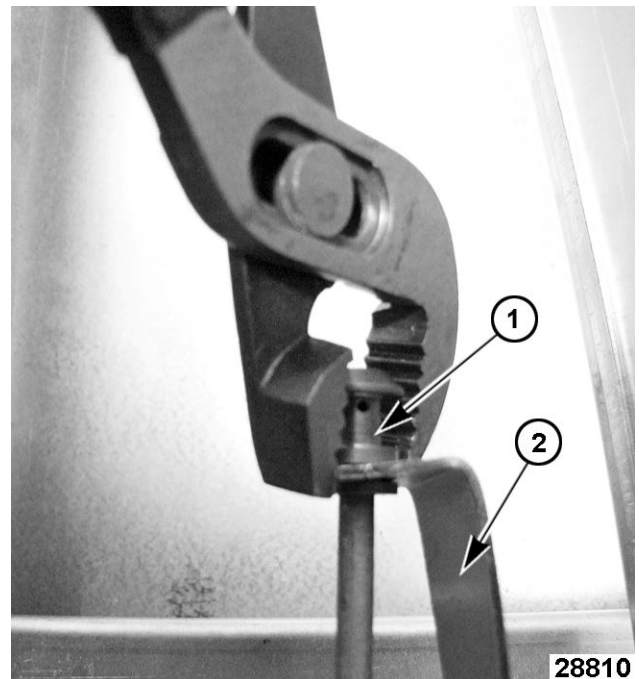

Fig. 75
5. Remove pilot tube assembly (1, Fig. 75) from pilot bracket (2, Fig. 75). Use pliers to separate as needed.